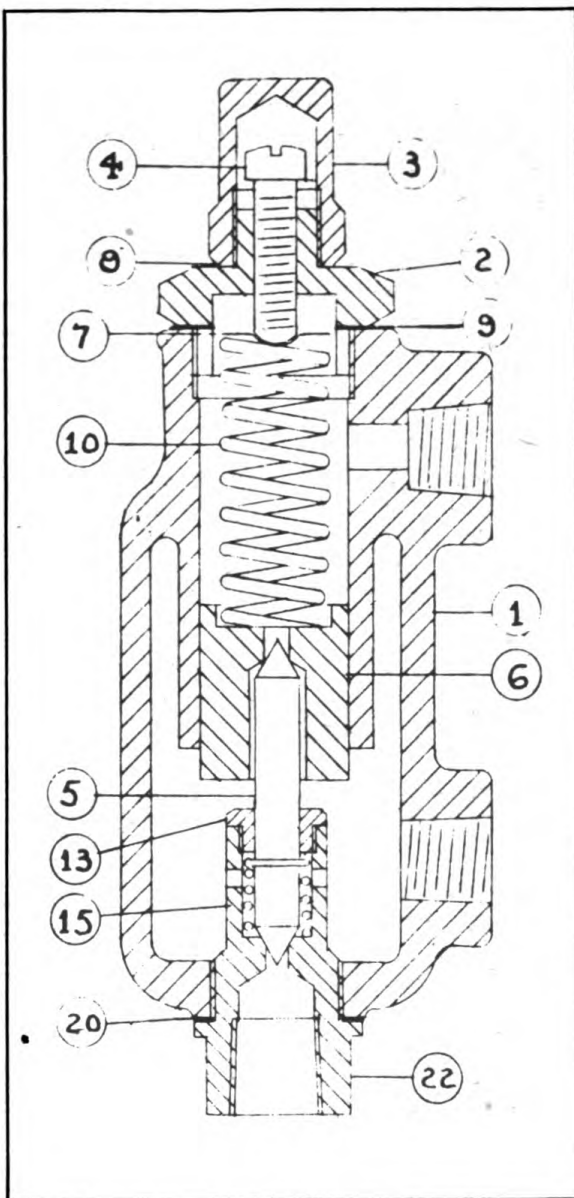

FIGURE 24M
5. Remove cap, #3, Figure 24M.
Clean all parts carefully and reassemble, using Figure 24M as guide.